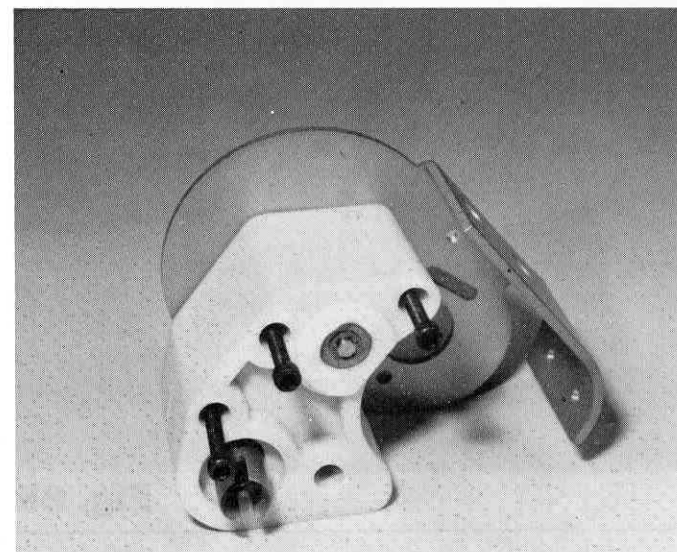

Fig. 92
- Fig. 92** Take the 3 long Allen screws, as shown, and screw them into the motor mount.